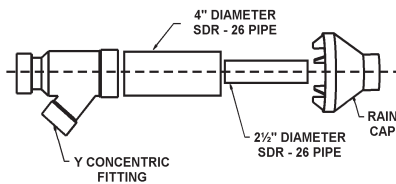

FIGURE 21.
- Cement Y concentric fitting to larger diameter kit pipe, see Figure 21.
NOTE: If assembly needs to be extended to allow side wall thickness requirement, the 2 pipes supplied in the kit may be replaced by using same diameter, field-supplied SDR-26 PVC (D2241) pipe. Do not extend 21 1/8" (53.6 cm) dimension more than 60" (1.5 m). See Figure 21.